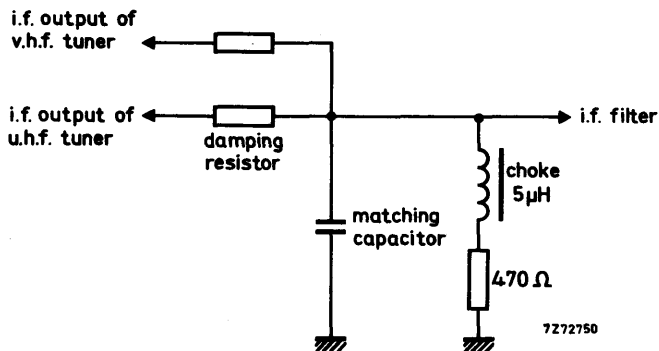

Fig. 8.
The tuner needs a d.c. path from the i.f. output terminal (10) to earth, preferably via a choke of approx. $5\ \mu\text{H}$ outside the tuner (Fig. 8). Where the tuner is used in combination with a v.h.f. tuner, this choke can be common for both tuners; a resistor in series with the choke can make ineffective the i.f. output circuit of the switched-off tuner. For damping the i.f. output circuit and matching the i.f. output impedance of the tuner to the i.f. amplifier, a series resistor and a parallel capacitor as shown in Fig. 8 should be used.